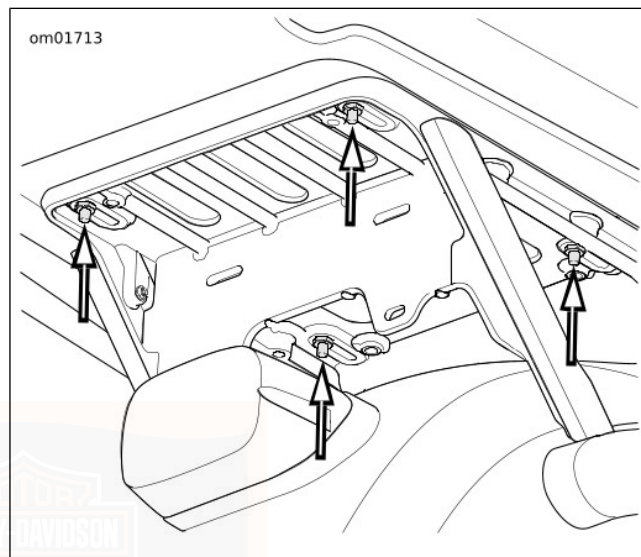

Figure 61. Tour-Pak Position Adjustment
1. See Figure 61. Loosen the four nuts securing the Tour-Pak to the support.